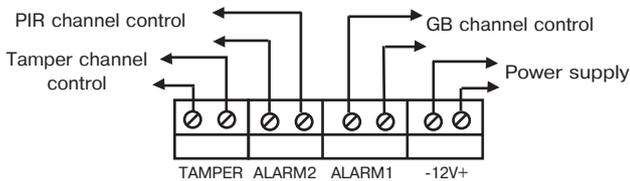

Figure 5
- Fulfill connections in accordance with Figure 5;